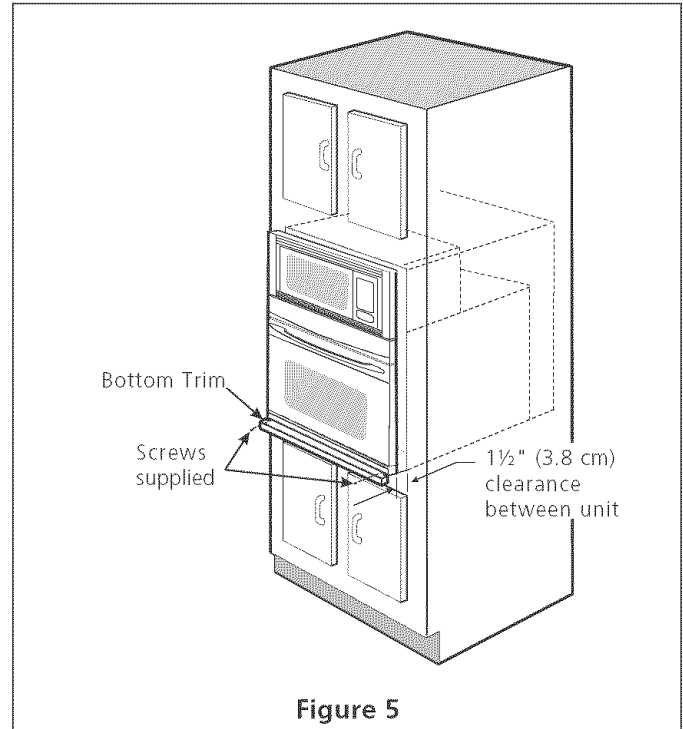

Figure 5
3. Insert the oven into the cabinet opening. Slide oven inward leaving 1½" (3.8 cm) clearance between the oven and front of cabinet (see Figure 5). Pull the armored cable through the hole for it in the cabinet and toward the junction box while moving the appliance inward.